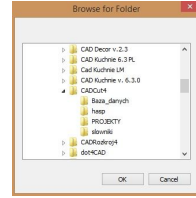

Fig. 103 - selection of the recording folder PRG files
- after clicking "Browse", the "Browse for Folder" window will open (Figure 103), then you should